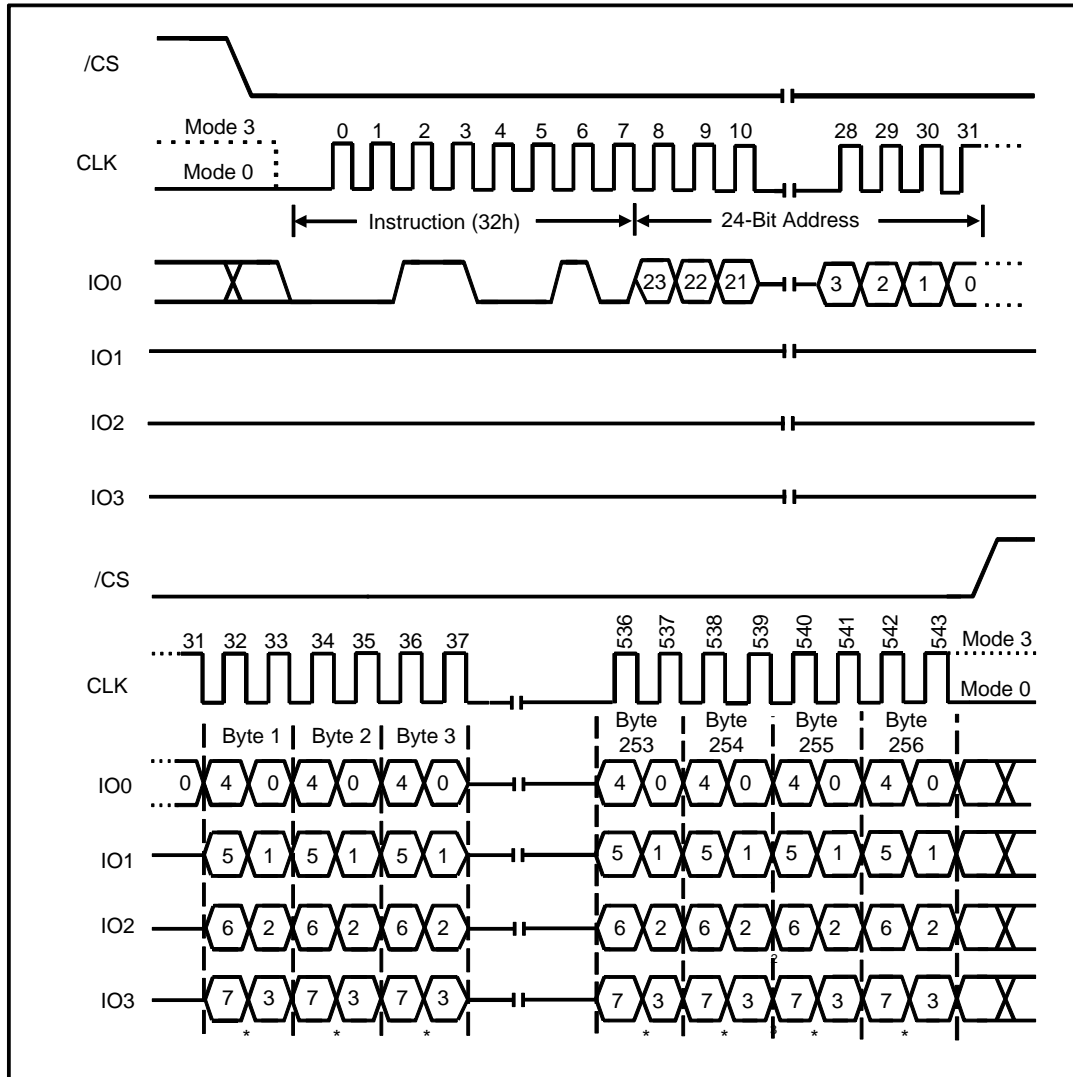

Figure 24. Quad Input Page Program Instruction (SPI Mode only)
The Quad Enable (QE) bit in Status Register-2 must be set to 1 to use Quad Input Page Program. And before the device accepts the Quad Input Page Program instruction (Status Register-1, WEL=1), A Write Enable instruction must be executed. As shown in Figure 24, it is initiated by driving the /CS pin low then shifting the instruction code "32h" followed by a 24-bit address (A23-A0) and at least one data Byte, into the IO pins. The /CS pin must be held low for the entire duration of the instruction while data is being sent to the device. All other functions of Quad Input Page Program have the same function as standard Page Program.